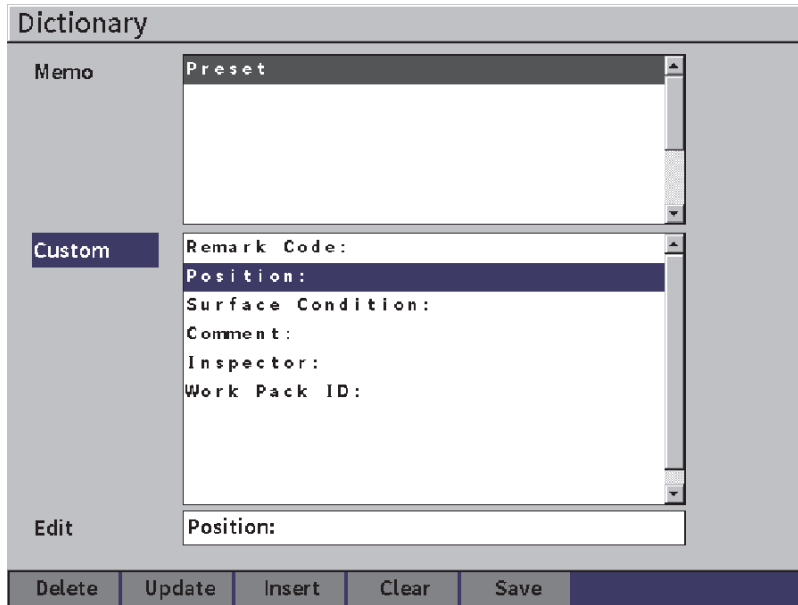

Figure 9-20 Memo Dictionary page
3. Press the Tab key to select **Custom**, then turn the adjustment knob to select one of the custom labels (see Figure 9-20 on page 144).